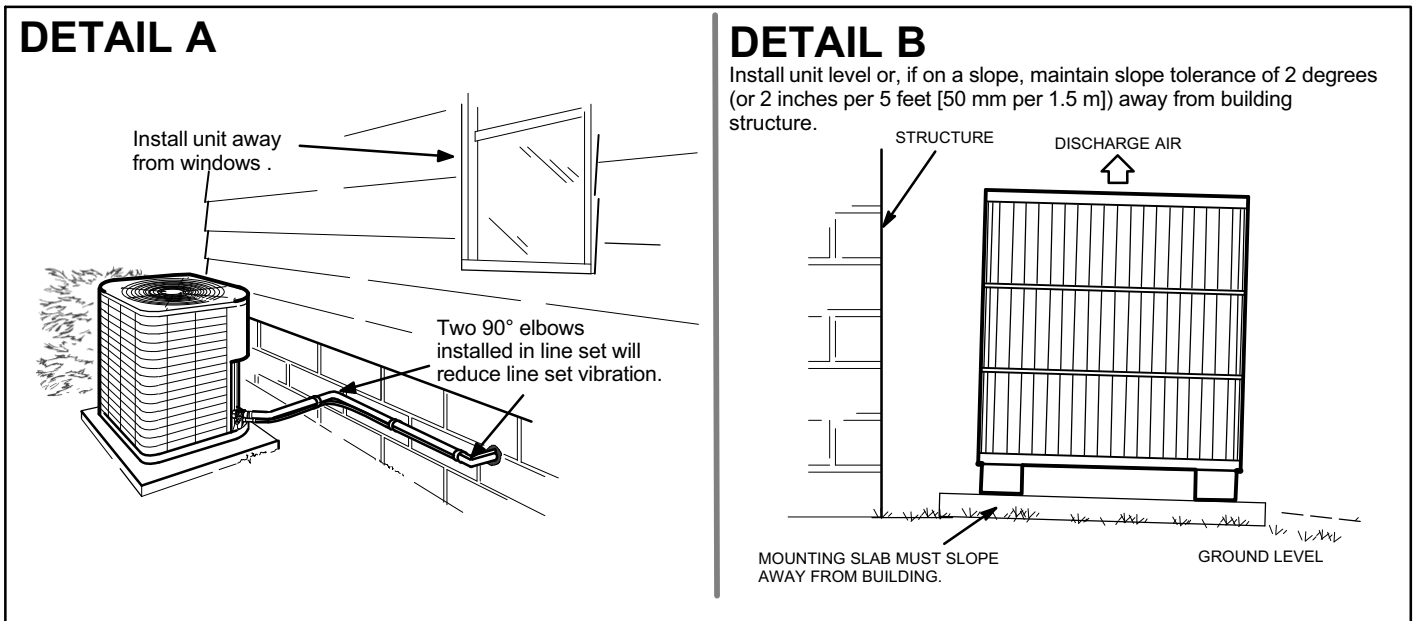

Figure 4. Placement, and Slab Mounting
- When possible, do not install the unit directly outside a window. Glass has a very high level of sound transmission. For proper placement of unit in relation to a window see the provided illustration in figure 4.
When installing a unit at grade level, the top of the slab should be high enough above the grade so that water from higher ground would not collect around the unit as illustrated in figure 4.
Slab may be level or have a slope tolerance away from the building of not more than two degrees, or 2 inches per 5 feet (51 mm per 1524 mm) as illustrated in figure 4.